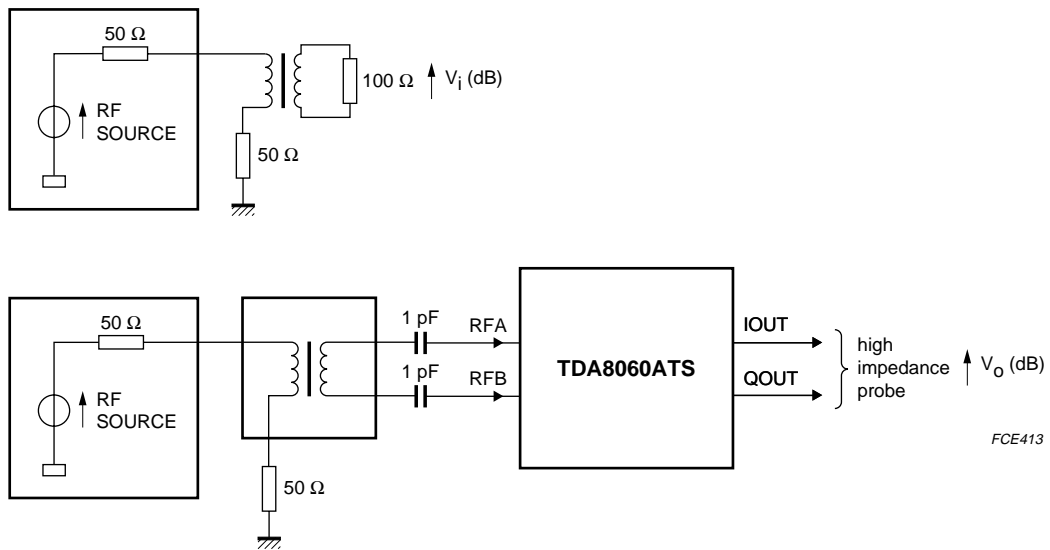

Fig.4 Gain control diagram for symmetrical RF input.
SYMMETRICAL RF INPUT (Fig.4)
6. Gain = $V_{o(dB)} - V_{i(dB)}$ (see Fig.4). Gain for symmetrical RF input.